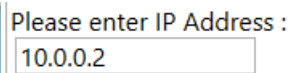

Figure 5 Entering the instrument IP address
- 4 In the field under **Please enter IP Address**, enter the IP address of the AriaMx or AriaDx instrument. (See Figure 5.)